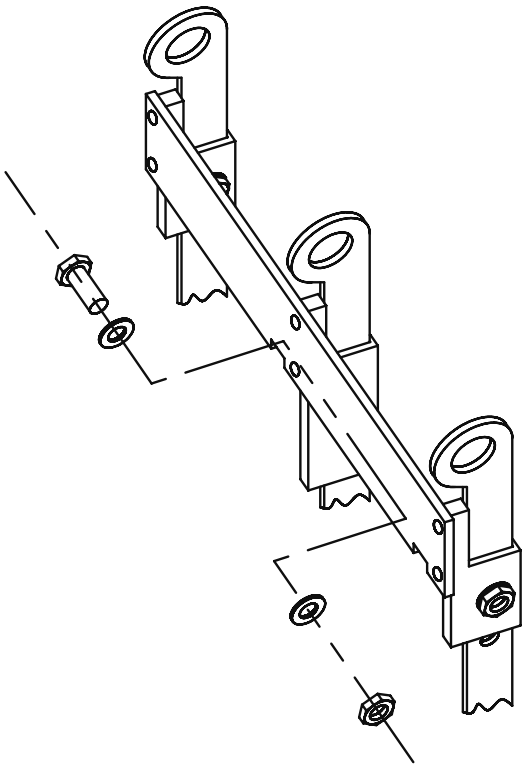

Figure 2. Conversion handle #P20029667B0002
Switchgear with serial numbers below 3Q9317000 utilize an early generation of Tri-Phase control and require installation of a jumper connector (SEC0113) upon the P2 connector of the Tri-Phase control board (Figure 2). This jumper parallels the trip circuits of each phase so that when a trip command is executed for the flux shift tripper of any one phase, all three phases trip concurrently.
2. Locate pin connector P2, which is in the lower right corner of the control panel; refer to Figure 2. Install jumper connector SECO113 on P2 as shown. The jumper parallels the trip circuits of each phase so that when a trip is enabled for the flux shift tripper on one phase, all three phases are then automatically tripped. The jumper connector is keyed (one side notched) to allow it to lock in place with P2 when properly installed. Do not force it into place.